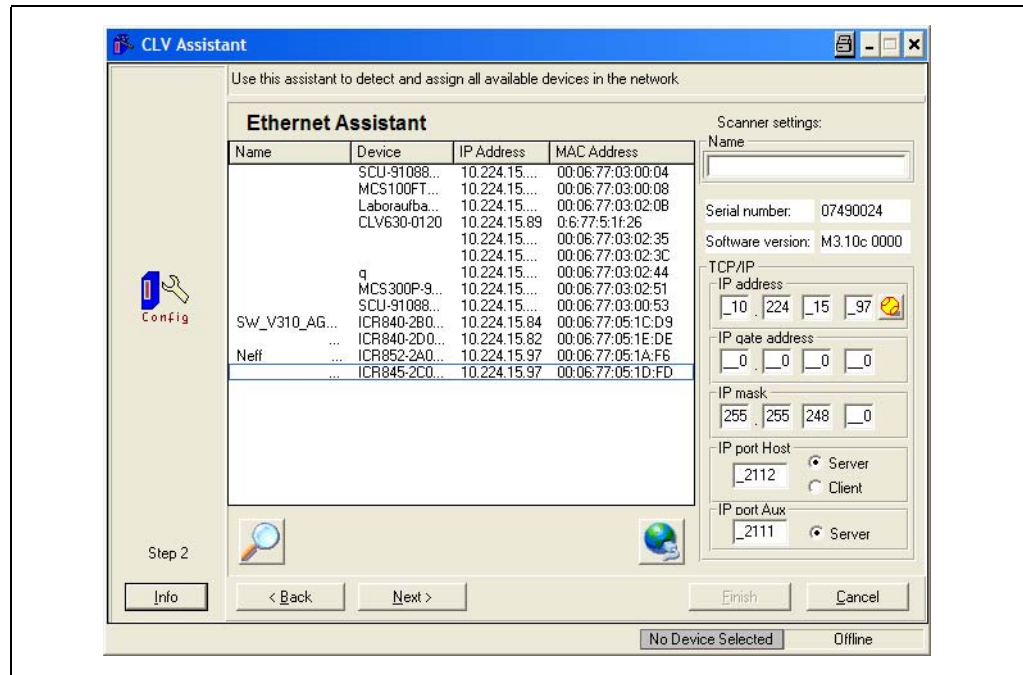

Fig. 6-4: CLV Assistant: Ethernet Assistant dialog box after a new IP address/mask has been assigned to the ICR845-2 (here: 010.224.015.097/255.255.248.000)
10. Reselect the device and check, whether the required IP address/mask has been successfully assigned to the ICR845-2 (Fig. 6-4, Page 52).